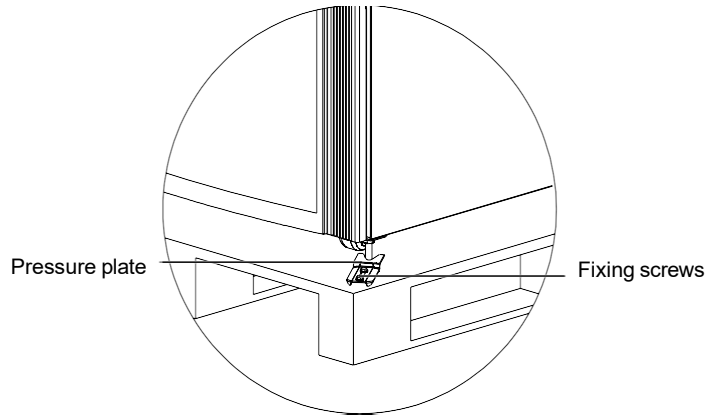

Figure 2-9 Removing the Feet Pressure plate
- Remove the fixing screws on the pallet using a sleeve or movable wrench followed by removing the pressure plate as shown in Figure 2-9.